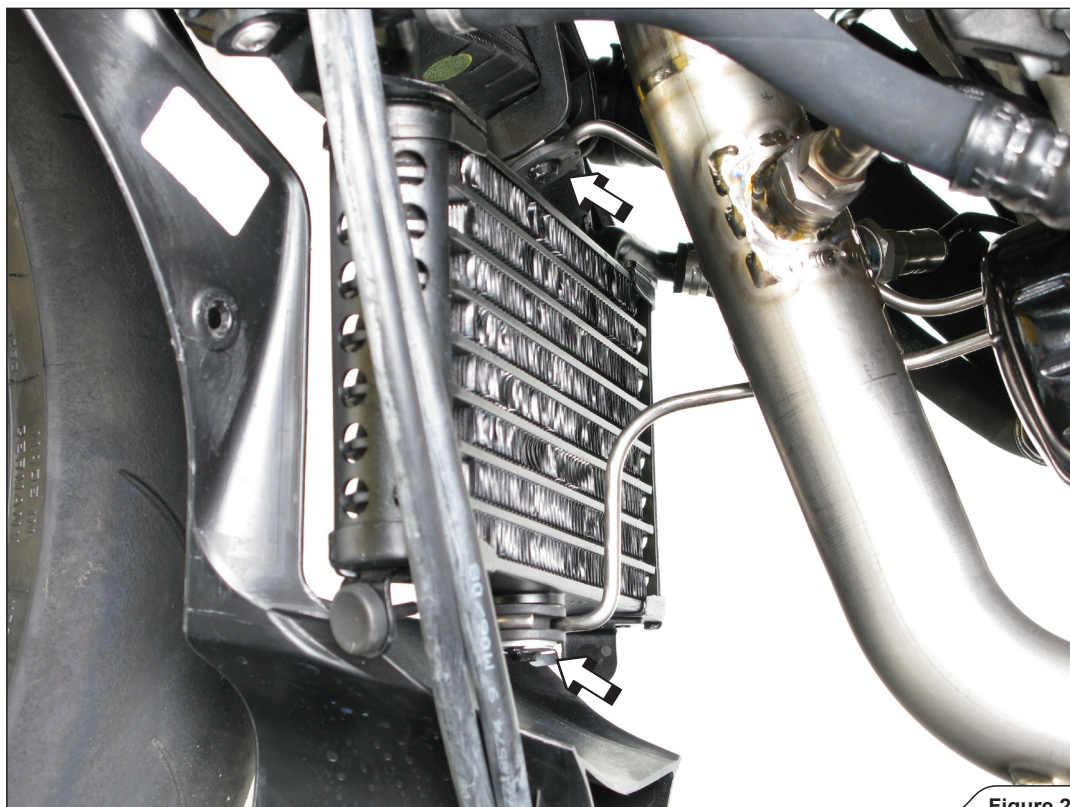

Figure 20
4. Attach the radiator bracket onto the radiators (**Figure 20**).